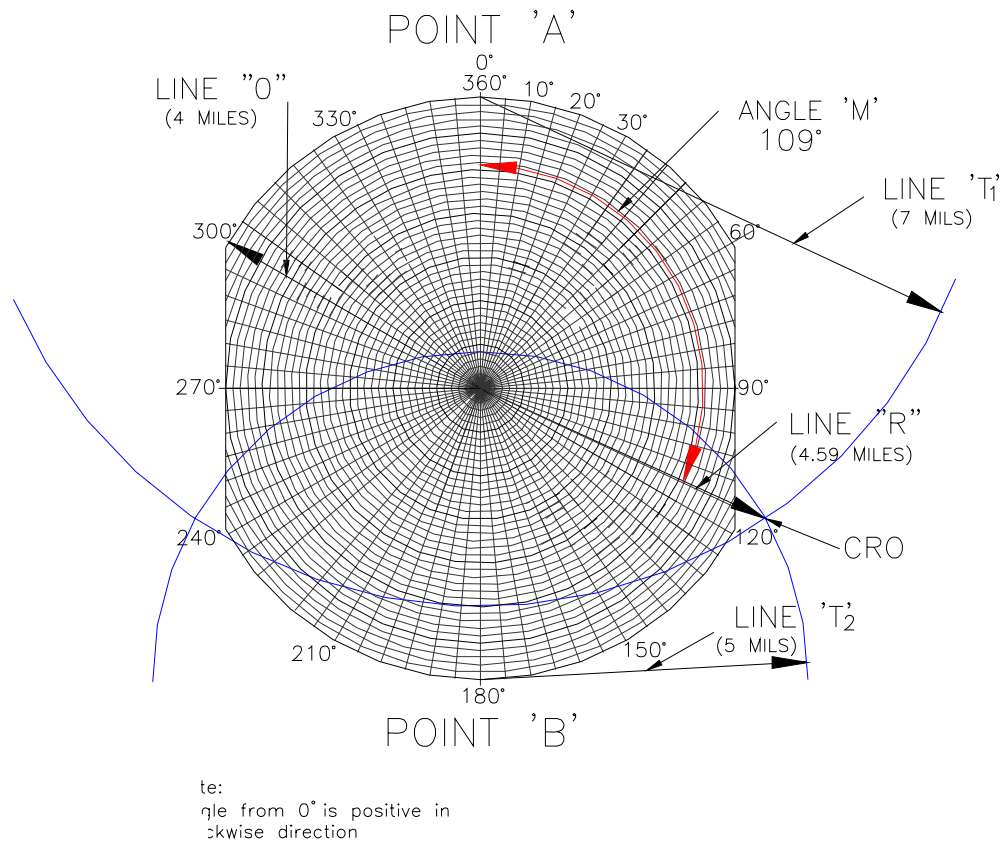

Figure 12 Sample Balancing Vector Diagram
9. Construct a vector diagram as illustrated in Figure 12 by using the "O". "T1" and "T2" value obtained in Step 2, 5 and 8 for the rotating machine being balanced. (A scaling of 0.4 inch per mil of unbalance is used in this figure).